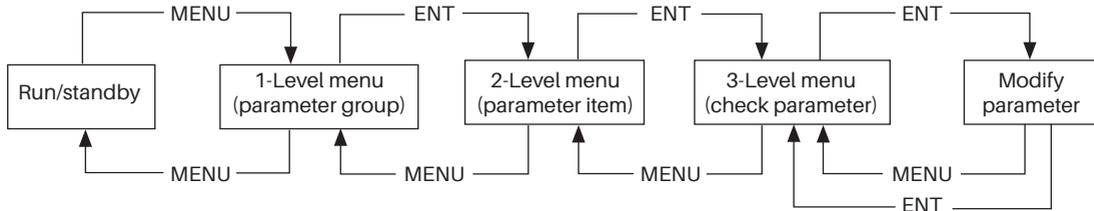
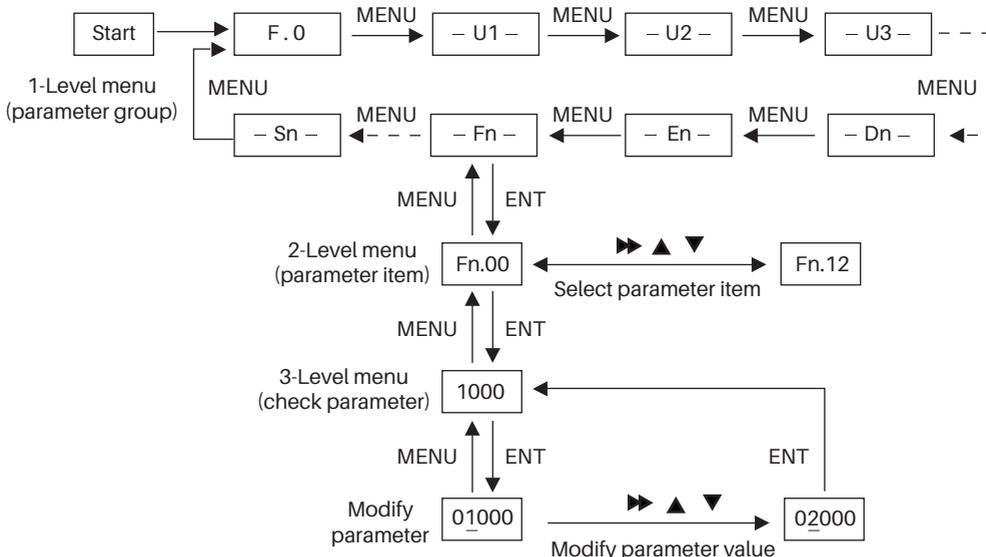

Figure 3-12 3-level menu operation flow chart
Figure 3-13 3-level menu operation flow chart
The three-level menu: menu item (1-level menu), parameter tem (2-level menu) and parameter setting (3-level menu). The operation process is shown in Figure 3-12.
During operation in 3-level menu, user may return to 2-level menu by pressing or (see Figure 3-12 and Figure 3-13). The difference between the two operations: after press ENTER key, the set parameter value will be saved to the controller, and then return to 2-level menu; it will return to 2-level menu directly without saving the parameter value by pressing MENU.
The detail operational procedures of 3-level menu are shown in Figure 3-13.
The flow chart of modify the parameters with the manipulator is shown in Figure 3-13.